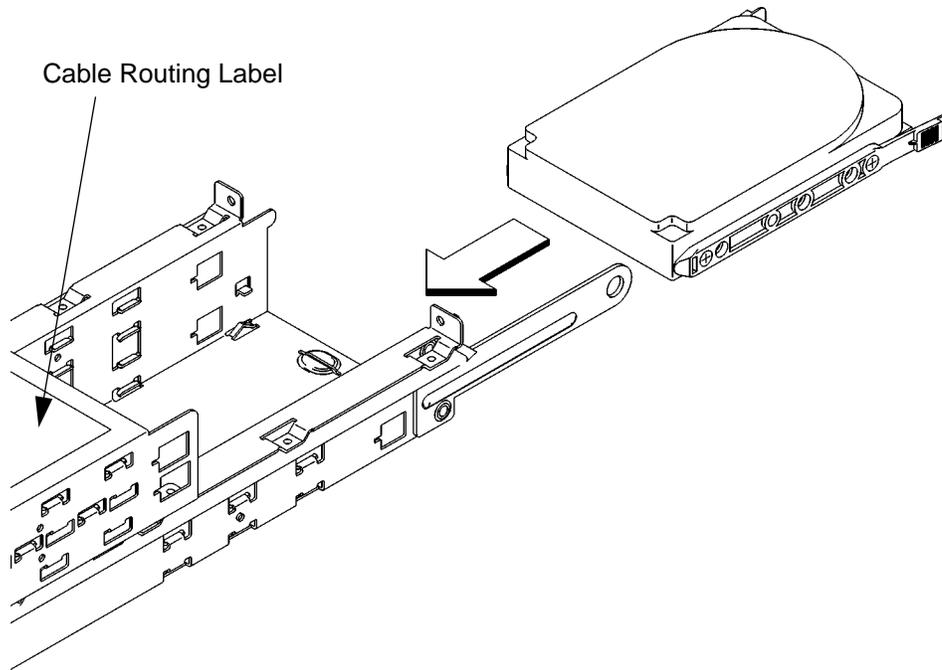

Figure 35 **Installing a Hard Disk Drive**
- 4 From the rear of the storage tray, line up the disk slides on the hard disk drive with the position 3 or position 4 slots in the storage tray chassis and slide it into place, as shown in Figure 35.